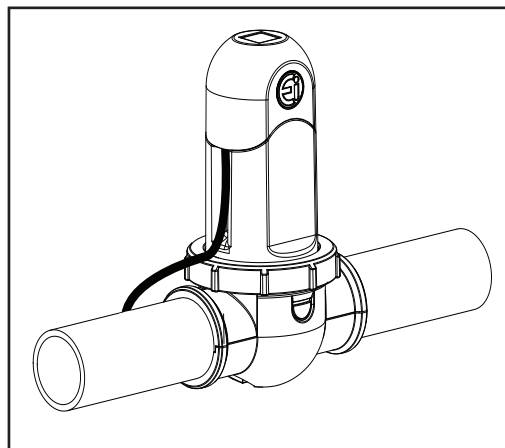

Figure 17. Attaching Terminal Cap
16. Attach the terminal cap (see Figure 17).